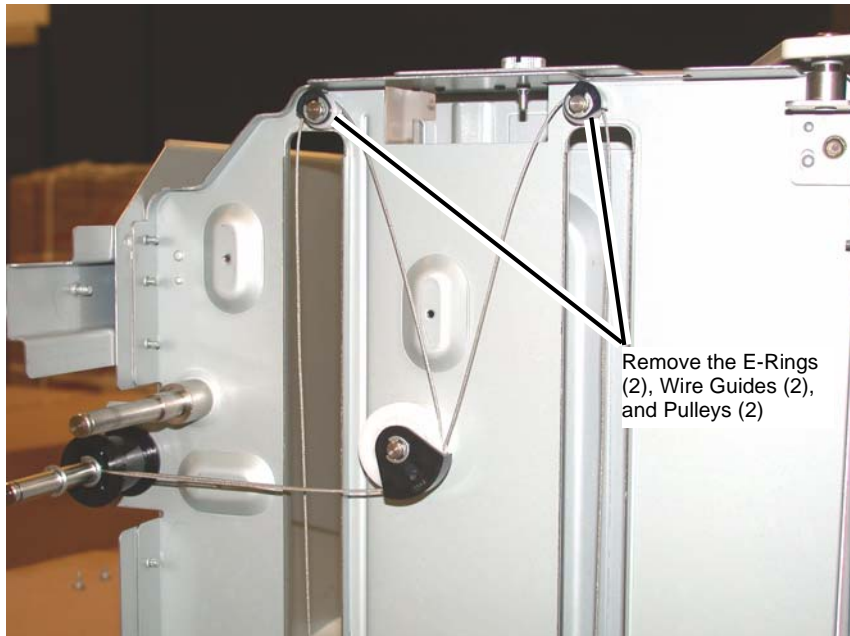

Figure 3 Preparing to remove the Rear Tray Cable
4. Prepare to remove the Rear Tray Cable (Figure 3).